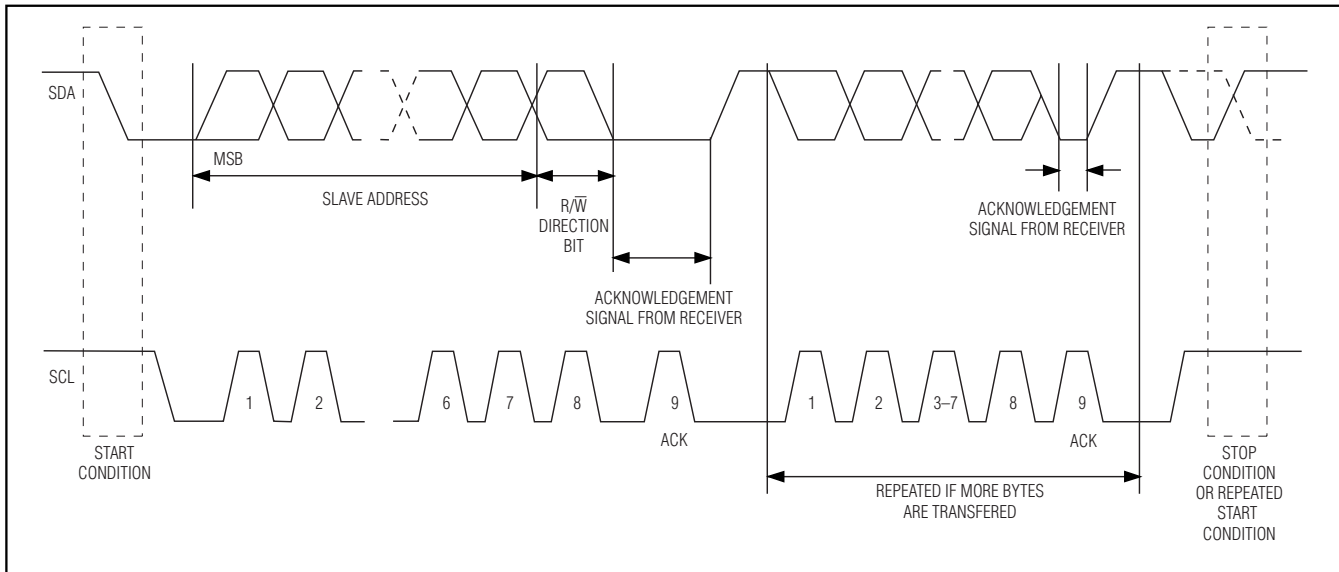

Figure 2. 2-Wire Data Transfer Overview
The following bus protocol has been defined (Figure 2):
**Data valid:** The state of the data line represents valid data when, after a START condition, the data line is stable for the duration of the high period of the clock signal. The data on the line must be changed during the low period of the clock signal. There is one clock pulse per bit of data. Figure 2 details how data transfer is accomplished on the 2-wire bus. Depending upon the state of the R/W bit, two types of data transfer are possible.